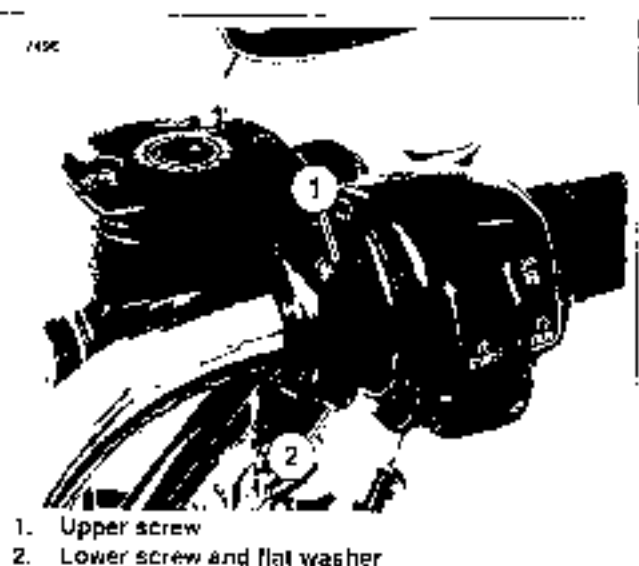

Figure 8-79. Handlebar Clamp Screws
4. See Figure 8-79. Using a T27 TORX drive head, loosen the upper screw (1), securing the handlebar clamp to the master cylinder housing. Remove the lower clamp screw with flat washer (2).